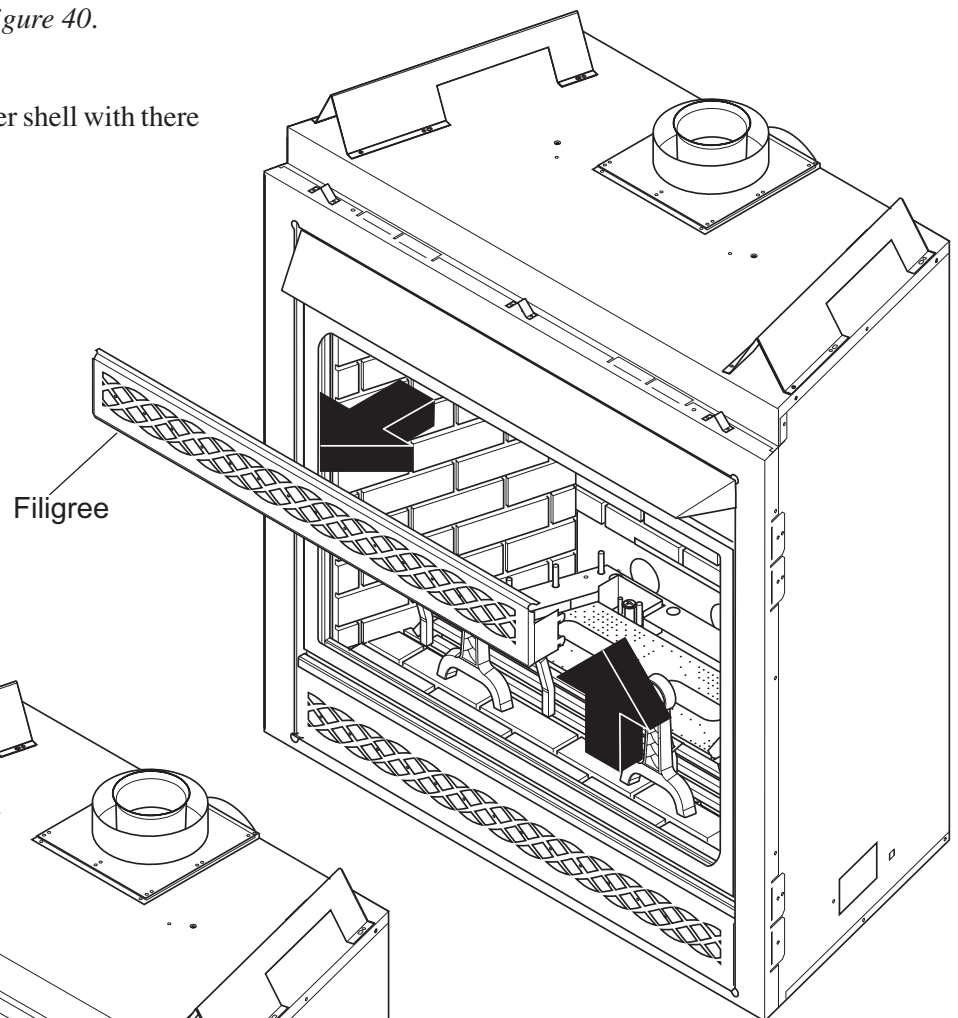

Figure 40 - Removing Filigree
1. Unhook top filigree. Set aside. *See Figure 40.*